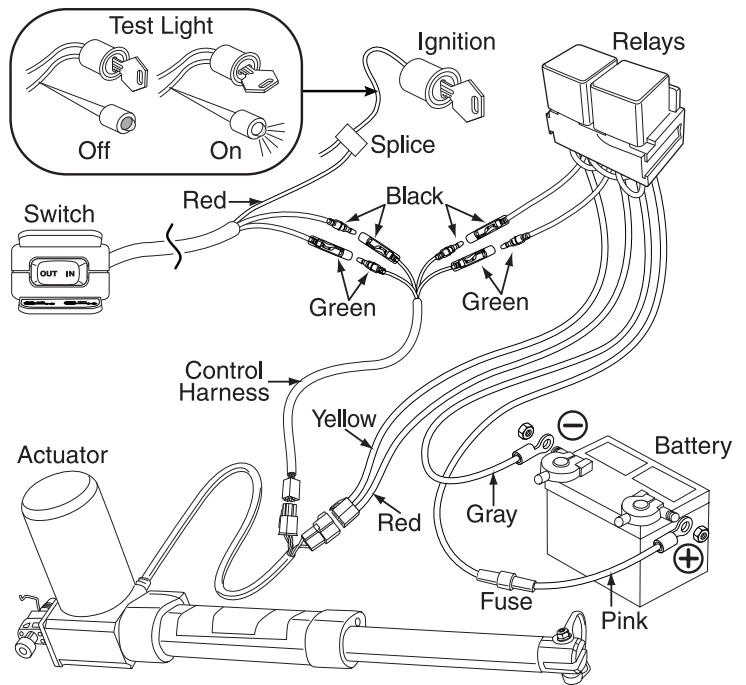

Figure 7 Electric Actuator Wiring
1. Carefully review Figure 7 that shows proper electrical wiring installation. The relay wiring will need to be routed along vehicle frame from the battery to the actuator on plow. The PINK and GRAY wires have ring terminals for connection to battery. The PINK wire goes to the positive (+) terminal and the GRAY goes to the negative (-) terminal of battery.
6. Use the wire splice to connect the RED wire to the accessory circuit wire as shown in Figure 7 and 11.